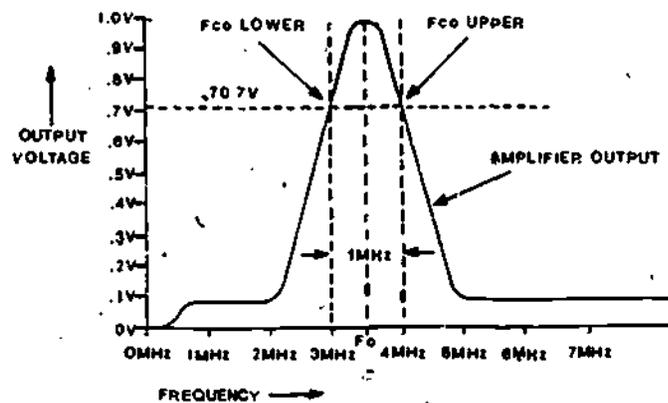

Figure 4
7. The amplifier characteristics you have covered can be presented in a frequency response curve as shown in Figure 4.
Frequency response curves will be common in your study of electronics. Figure 4 shows a frequency response curve for an amplifier with an input of .1 volt and a gain of 10. The frequencies of the input voltage are divided along the horizontal (or X) axis. The amplifier output voltages are divided along the vertical (or Y) axis. The curve of the amplifier output shows the output voltages which go with different frequencies of the input voltage. Recall that the maximum output for amplifiers = gain X input voltage at  $F_0$ . In this example, the maximum output =  $10 \times .1$  volt, or 1 volt. Now you can see that the upper and lower  $F_{co}$ 's, or half-power points, are located at the frequency points on the response curve at which the output voltage is only 70.7% of the output voltage at the center frequency. In this example, 70.7% of the maximum output voltage =  $.707 \times 1$  volt, or .707 volts.